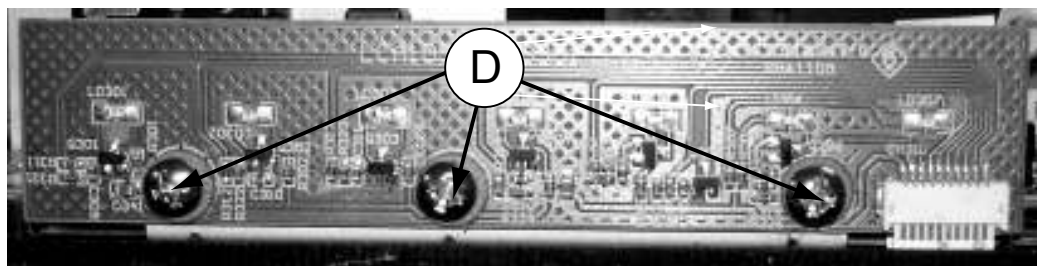

Figure 4
- 1) Loosen 3 screws "D" to remove the Led Board as shown in figure 4.